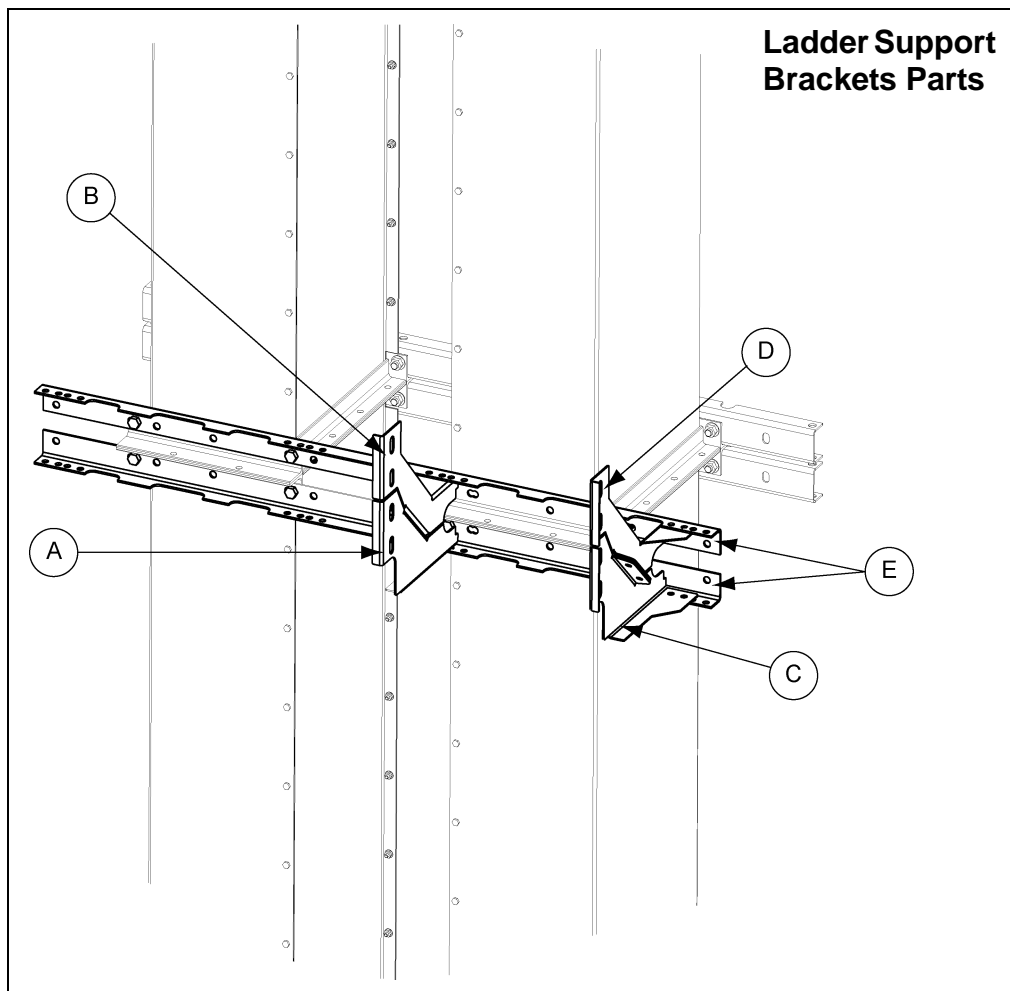

Figure 6L Ladder Support Bracket Parts
1. Attach ladder support brackets to tie angle using 3/8" x 1" hex bolts (S-7469). Use the holes shown in Figures 6L-6P on Pages 30-32 for each size elevator.